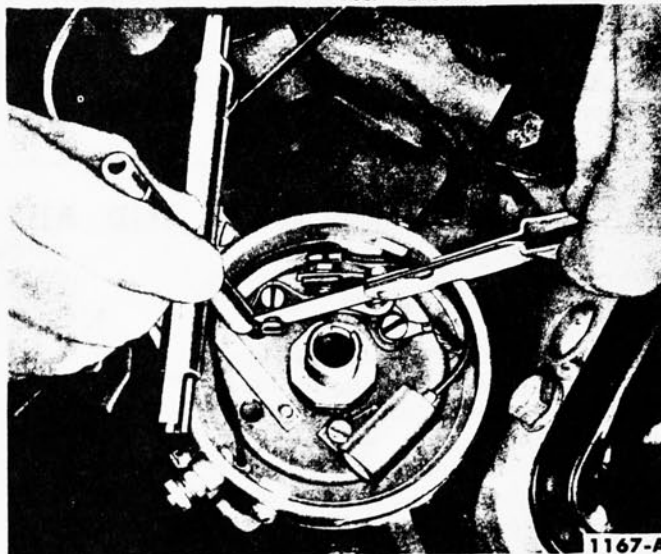

FIG. 14—New Breaker Point Gap Adjustment
2. Insert the correct blade of a feeler gauge between the breaker points (Fig. 14). The correct gap should be 0.014-0.016 inch. If the fit is loose or if there is binding, loosen the stationary point lockscrew and adjust the gap (Fig. 14).